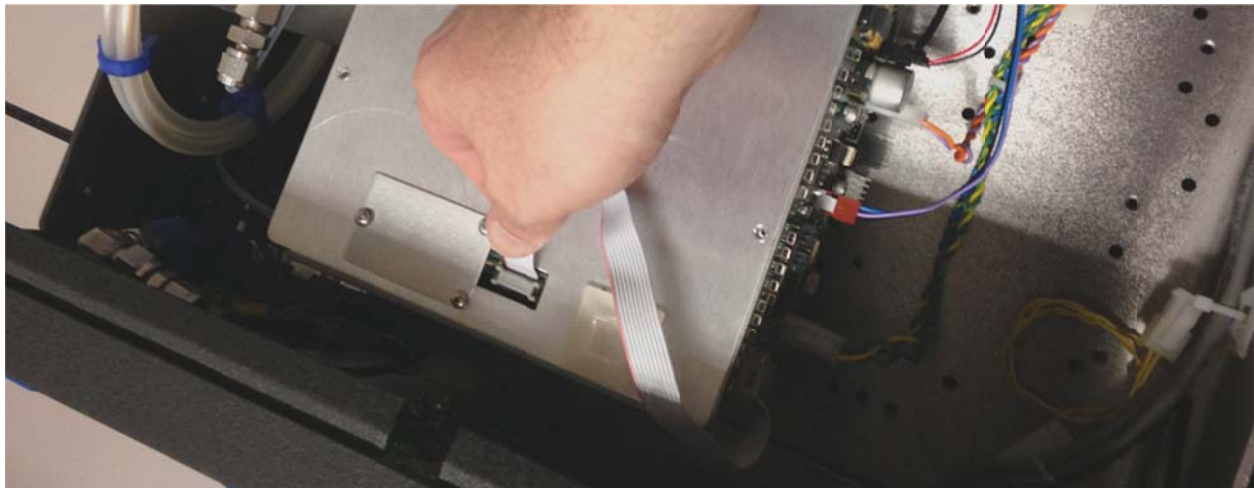
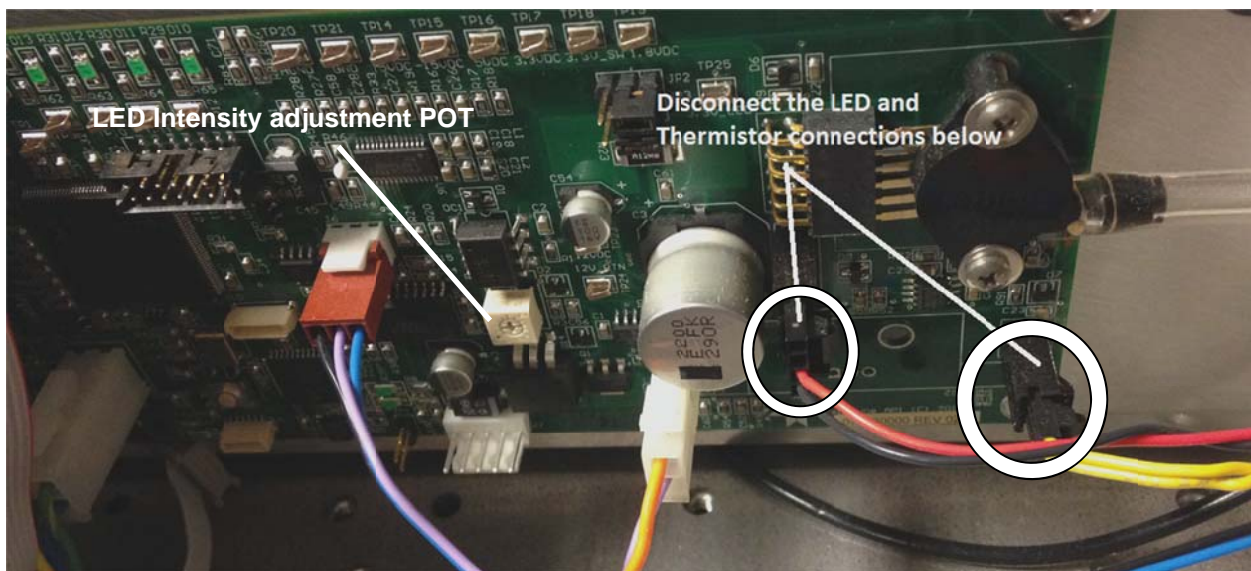
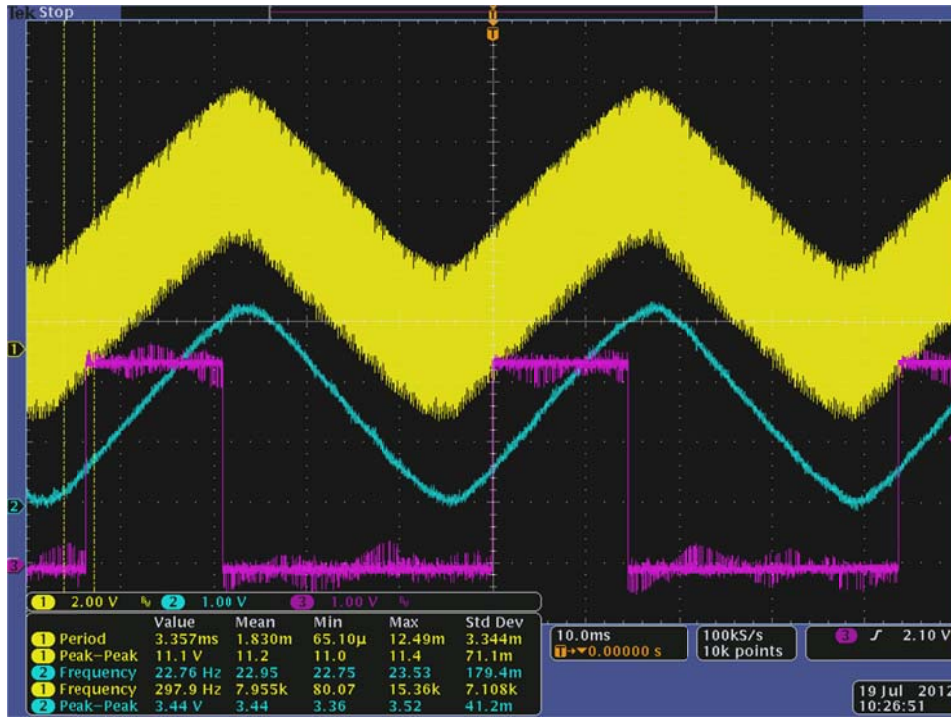

Figure 1
Figure 3
Figure 13 Stage 1 output incorrectly adjusted
1. Power down the T500U and remove the detector cable from the top of the instrument as shown in Figure 1. Be sure to follow proper ESD procedures.
- Disconnect the Thermistor and LED connectors, from the DAQ board, as shown in Figure 3.
12. Once the optical bench is re-assembled, place it back in the oven housing, and reconnect the fittings, the thermistor and LED connections to the DAQ board, and loosely connect the two brackets that hold the bench down in place. The detector will need to be re-aligned with the opening in the top of the oven cover as shown in Figure 1 so that the signal cable can be re-connected.
13. Once the sensor is aligned with the cover, finish tightening down the two brackets holding the sensor down being sure not to over tighten. Plug in the detector signal cable shown in Figure 1, and disconnect the red and black LED power cable shown in Figure 3 then turn the instrument back on while sampling Zero air at the sample port. **Caution - Never operate the instrument with open/loose pneumatic fittings, ambient air will be pulled into the sensor and dirty the mirrors.**
Note: Following the addition of new mirrors it is typical to only have to adjust the amplitude to both the first and second stage signals, by adjusting the “LED Intensity adjustment POT” Figure 3. The goal is to keep the first stage at 8 to 8.5 V and the second stage at 4 to 4.5 V. Steps 15 to 19 should be undertaken only if excessive noise is noted on either signal. This is not common!
- Plug in the LED to the Mixer/Preamp board as shown in figure 3, adjust the oscilloscope to a 10mS time scale and turn on channel 2 with 1V/DIV as shown in Figure 13.